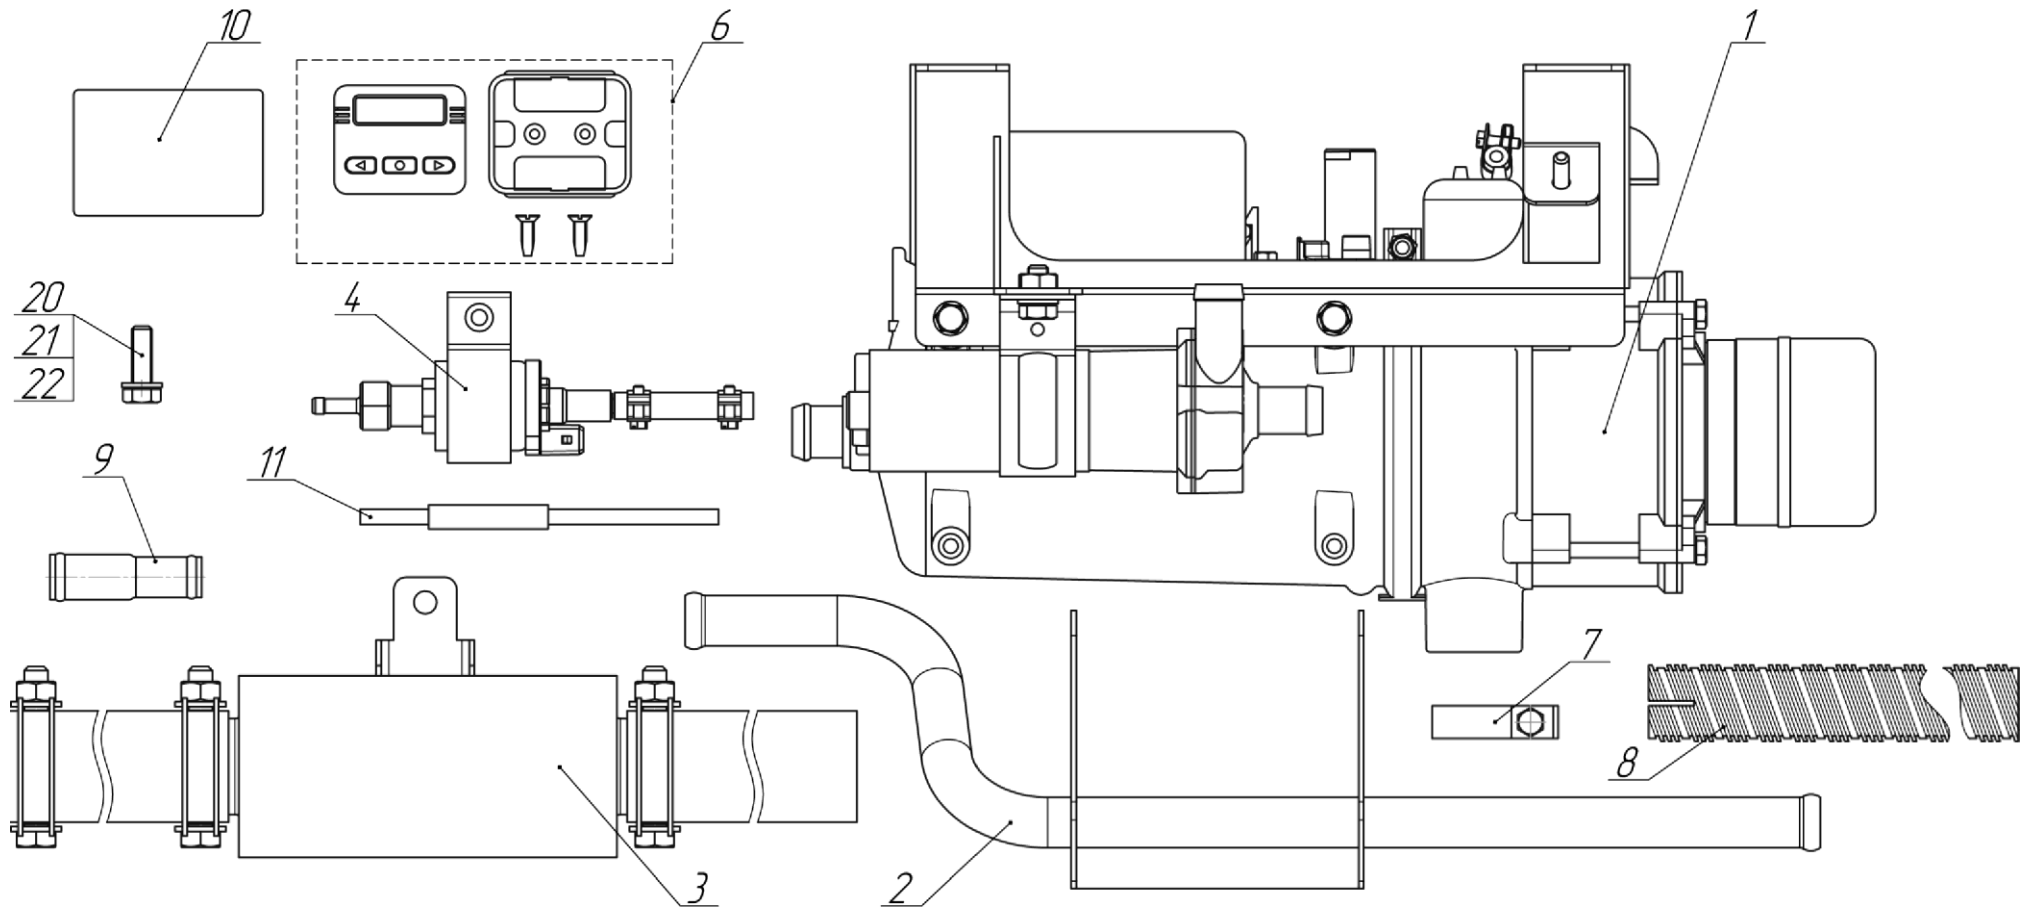

Fig. 1 - Preheater explosion diagram
1) The composition of **diesel preheaters** according to the product explosion diagram in Fig. 1 and the list of parts and assemblies in Table 1.